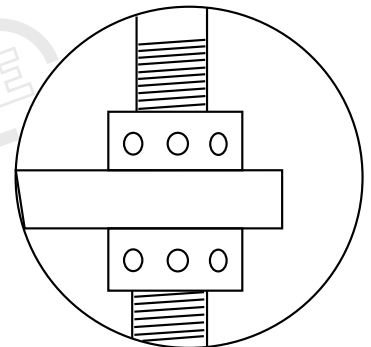

Fig.1
1. Remove the plastic plug on the side of the level. Behind the plastic plug you will find two locking nuts. (Fig 1).